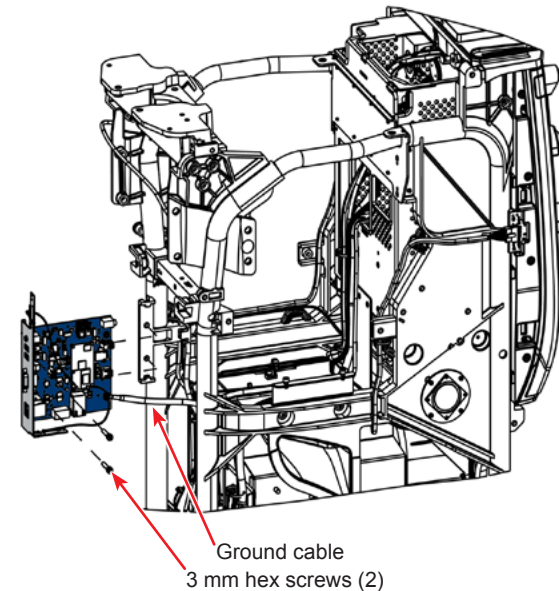

Figure 3-30 Rear Panel I/O-Wireless Module Assembly Removal
- 29.5 Remove two 3 mm hex screws securing Rear Panel I/O-Wireless Module Assembly to chassis (see Figure 3-30). Screws are accessed from inside chassis; removal of lower right panel may be necessary.